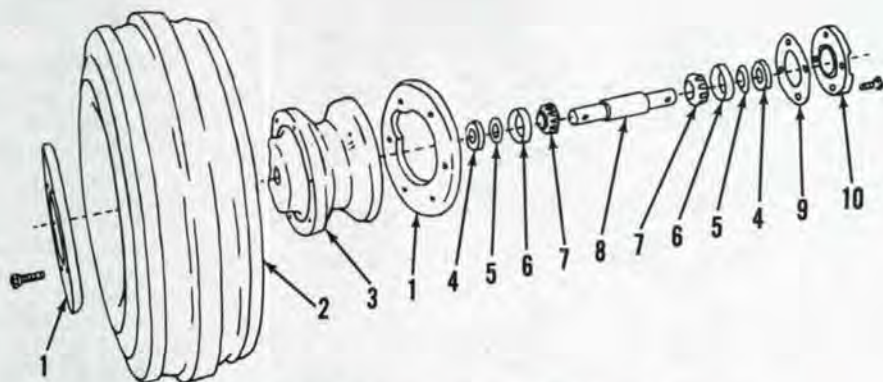

Fig. AC2 — Exploded view of single front wheel assembly.
To renew bearings and/or seals, first remove wheel assembly; then, unbolt and remove bearing retainer (10—Fig. AC2), seal (4), seal retainer (5) and shims (9). Drive or press on opposite end of spindle to remove spindle (8), bearing cones (7) and bearing cup from retainer side of hub. Then drive remaining seal and bearing cup out of hub. Remove bearing cones from spindle.
Soak new felt seals in oil prior to installing seals and seal retainers. Drive bearing cup into hub until cup is firmly seated. Drive bearing cones tightly against shoulders on spindle. Pack bearings with No. 2 wheel bearing grease. Install spindle and bearings in hub and drive remaining bearing cup in against cone. When installing bearing retainer, vary number of shims (9—Fig. AC2) to give a free rolling fit of bearings with no end play.
If necessary to renew wheel hub or repair tire, deflate tire before unbolting and removing tire retaining rings (1—Fig. AC2).